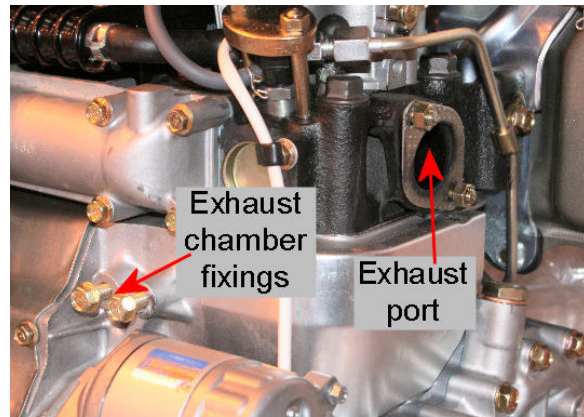

Fig 5-4 Exhaust chamber fixing points
2. Remove the exhaust chamber. Fig 5-4 shows the fixing points.